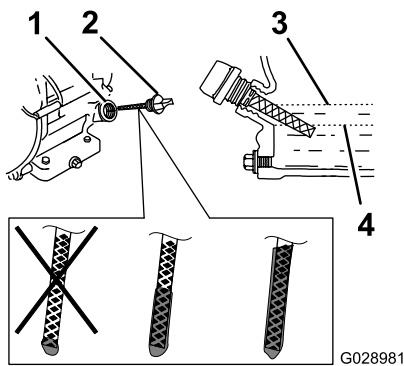

Figure 43
6. Remove the dipstick (Figure 43) and slowly pour oil into the fill hole until the oil reaches the upper-limit mark (bottom edge of the oil-fill hole) on the dipstick.